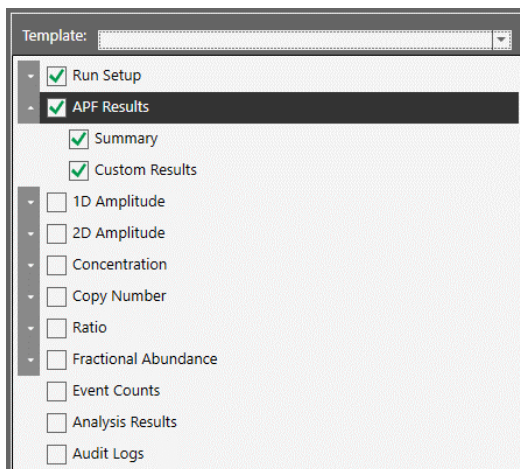

Fig. 13. On the Reports tab, ensure APF Results is checked prior to generating the report.
- To export a report, navigate to the Reports tab, ensure APF Results is checked to be included in the report (Figure 13), and click Generate Report. The Result Summary Table will be exported as part of the report.